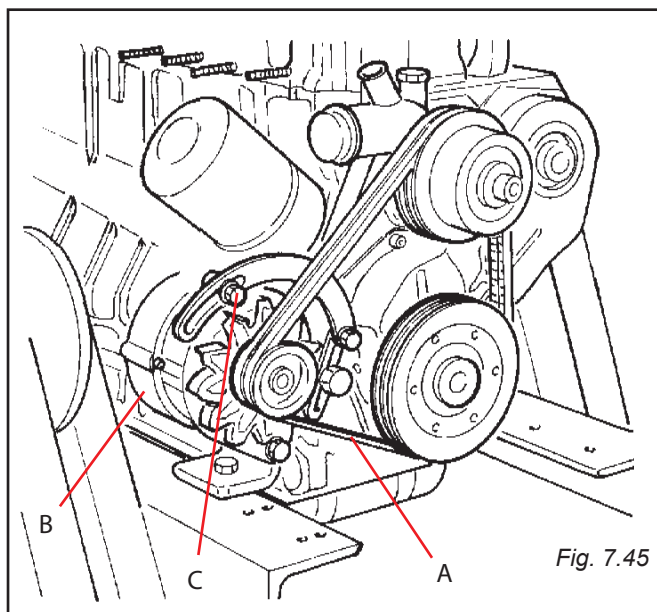

Fig. 7.45
A) by applying pressure of about  $7 \div 8$  kg on the longest side of the belt (see Fig. 7.45): the resulting flexion should be approximately 10 mm.